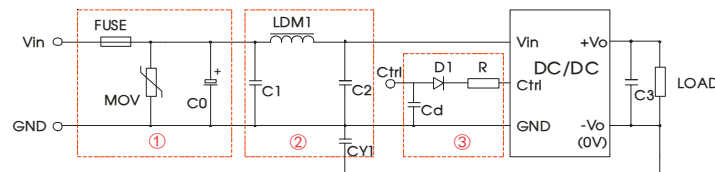

Fig. 3
- Part ① in Fig. 3 is used for EMS test while part ② is used for EMI filtering; and parts ① and ② may be selected based on needs.
- V_C is the voltage of the Ctrl end relative to the GND of the input grounding; V_D is the positive-going conduction pressure drop of D1; I_C is the current flows into the Ctrl end and its value is generally 5-10mA, see Fig. 3-③ for the peripheral circuit of Ctrl end;